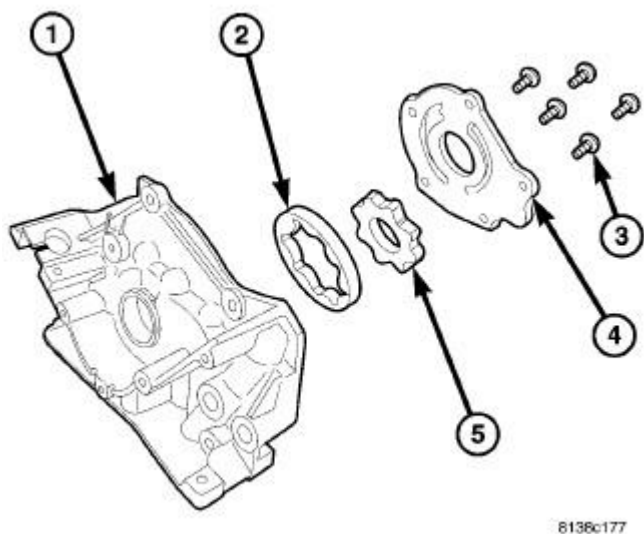

Fig. 431: Oil Pump Assembly
1. Remove oil pump cover screws (3) and lift off cover (4). Refer to **Fig. 431**.